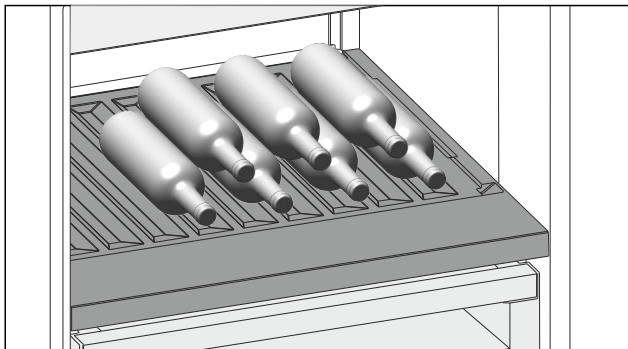

Fig. 108
- ▶ Place bottles in the back row with their bases against the back wall. (see Fig. 108)